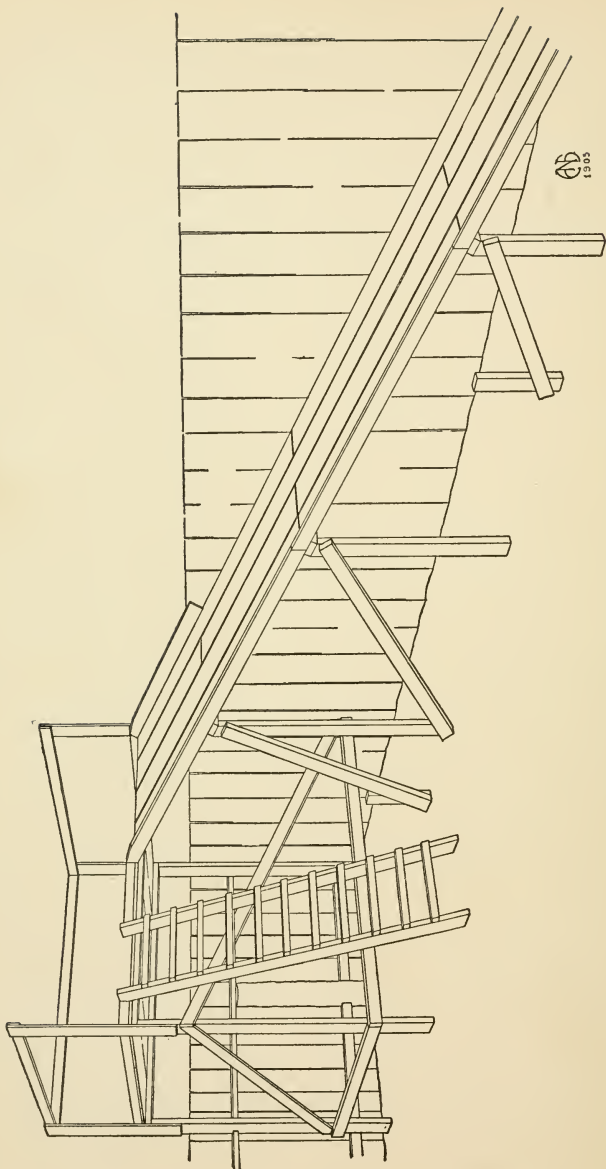

FIG. 310. — A Back-yard Toboggan-slide.
object to which the framework can be fastened, as it saves a great deal of bracing, and materially lessens the amount of lumber needed. The work should be done in the early part of the fall, before the cold weather sets in. Figure 310 shows a slide built in the corner of a yard against the fence.
In order to prevent sleds from running off the slide, a guide should be nailed to the edge farthest from the fence, from the top to the bottom, and on the opposite side where it extends above the fence top (see Fig. 310).
**Build a Railing** out of boards around three sides of it, to prevent any one from slipping off (see Fig. 310).
**A Ladder**, made out of two two-by-fours, with two-inch strips nailed across them, should be set against the front of the platform and spiked in place, as shown in the illustration of the completed slide (Fig. 310). This will make it easier to reach the platform than by the way of the icy slide, and also prevents those coasting from colliding with those who are returning.